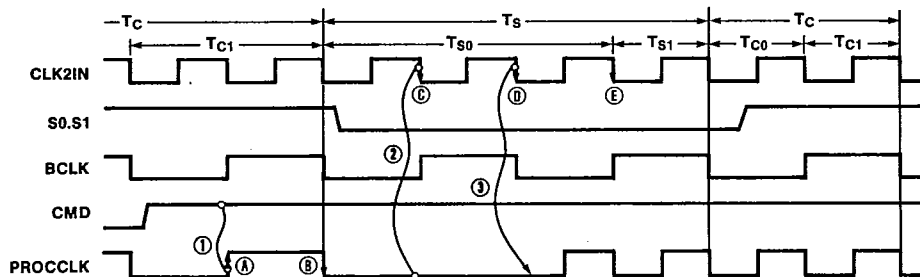

Figure 1.4 Sequence Diagram for Low to High Frequency Transition
In Figure 1.4, the rising edge (A) of PROCCLK latches command inactive as denoted by sequence (1). Edge (B) disables BCLK on the PROCCLK line. In sequence (2), edge (C) of CLK2IN latches PROCCLK low. Edge (D) then enables CLK2IN on the PROCCLK line as denoted by sequence (3). If sequence (2) does not meet setup time requirements of edge (C), then the state of PROCCLK is sampled as being high in sequence (2). In this case, edge (D) samples PROCCLK low and edge (E) enables CLK2IN on the PROCCLK line. In this case also, PROCCLK does not violate the min and max 80286 CPU clock specifications.